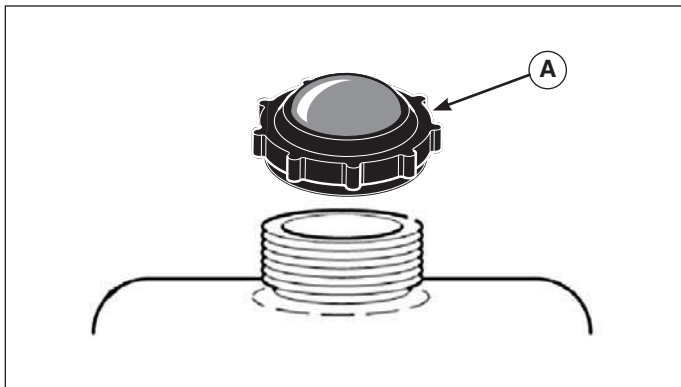

Figure 6
1. Clean the fuel cap area of dirt and debris. Remove the fuel cap (A, Figure 6).